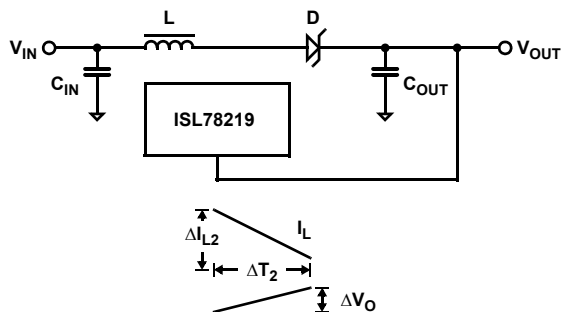

Figure 16. Boost Converter - Cycle 2, Power Switch Open
During the second cycle, the integrated power FET turns off and the Schottky diode is forward biased (see Figure 16 on page 9). The energy stored in the inductor is supplied to the output. This energy is used to charge the output capacitor and supply output current. In this cycle switching node (LX) is held to V_{OUT} + Schottky diode drop. Voltage drop across the inductor is V_{IN} - V_{OUT} (ignoring diode drop across Schottky diode). The change in inductor current during the second cycle is shown in Equation 2: